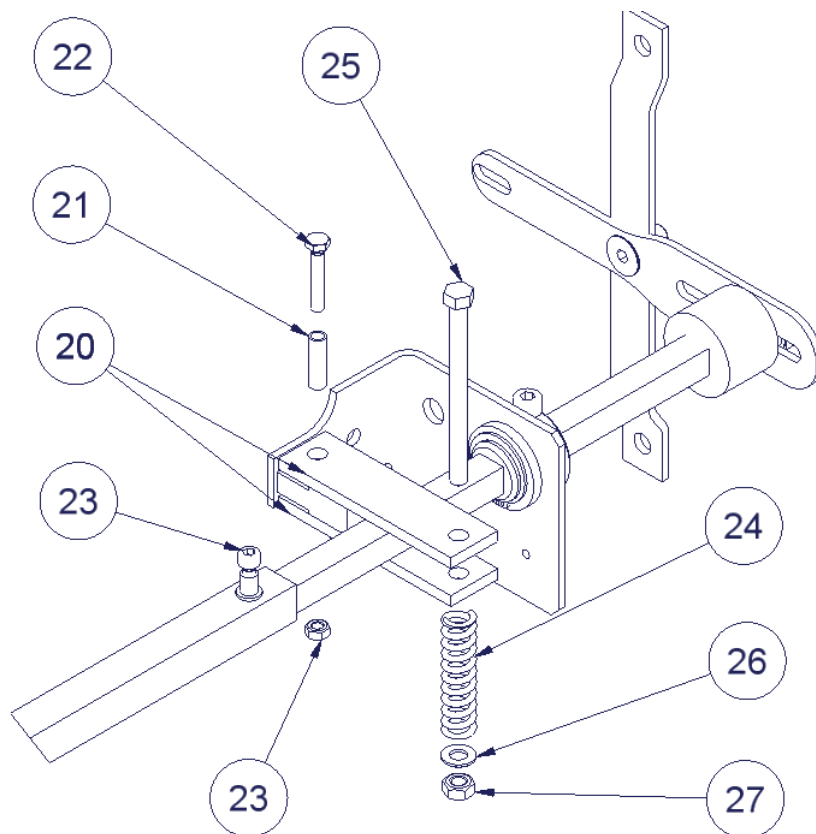

Figure.6
**7. TENSOR GROUP ASSEMBLY:** The two axle supports (**20**) must be aligned with the tensing support (one in upper part and other in lower part), then insert the tensing tip (**21**) and fix this group with the M6 X 35 DIN 933 screw (**22**) and M6 DIN 985 Autoblock nut (**23**). Next, the M8 X 100 DIN 931 screw (**25**), must be introduced in the free drill holes placed at the axle supports and through the spring (**24**), as can be seen in the figure. Finally the group is fixed by a M8 DIN 125 washer (**26**) and a M8 DIN 985 Autoblock nut (**27**) -Fig.6-.